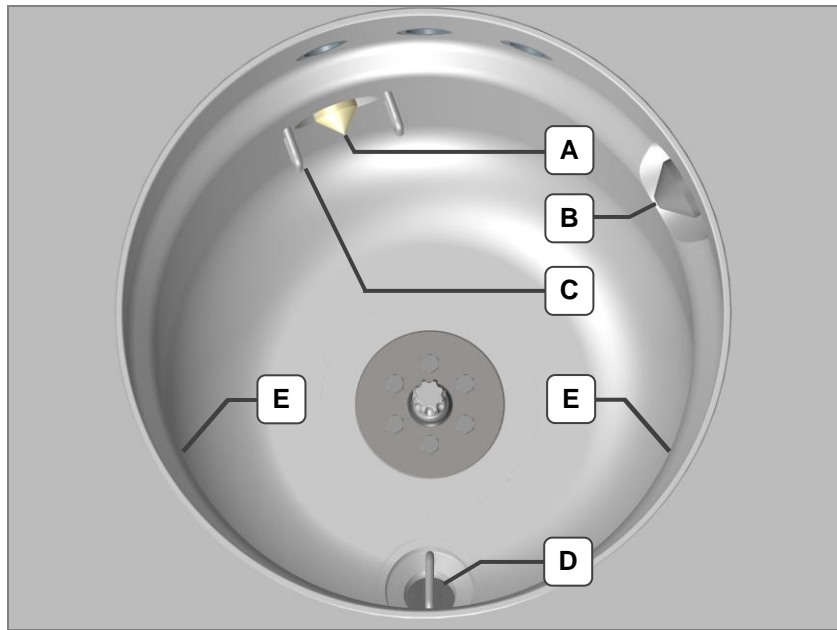

Fig.9.1.4.1 View of cleaning chamber
- Inspection criteria** Visually inspect the cleaning chamber for residues and soiling. In doing so, particularly check the area of the heater (*Fig. 9.1.4.1.E*) for adhesions.
- Procedure** Unscrew the drain sieve (*Fig. 9.1.4.1.D*) anticlockwise out of the drain groove.
- Inspection criteria** Visually inspect the surfaces of the filling level sensors and the guard bar for soiling or damage (*Fig. 9.1.4.1.A/B/C*).